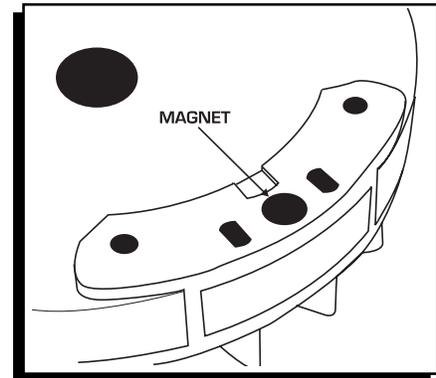

Figure 4 The Magnet Mounted in the Flywheel.
7. When the flywheel assembly is cured, make sure the magnet is flush with the surface, smooth and clean (Figure 4). Reinstall the flywheel using the stock key on the crankshaft and torque to the factory specifications.